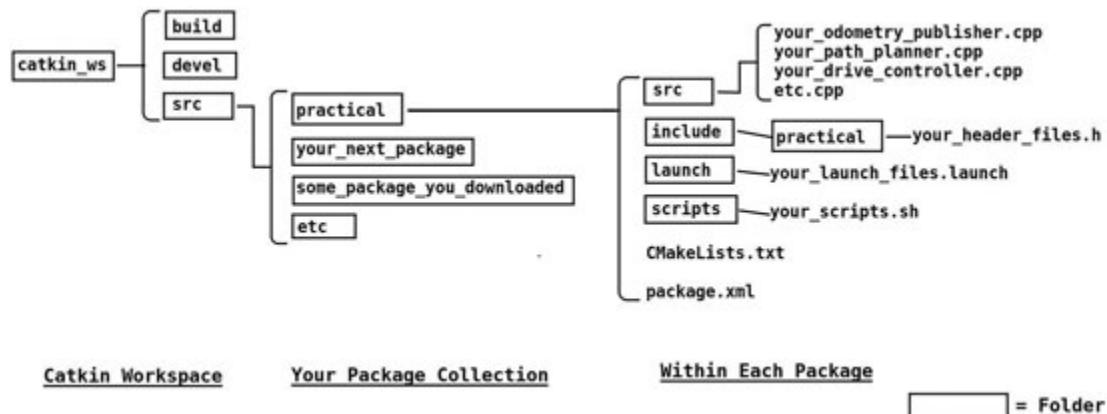

Figure 9.8: The Catkin workspace file structure
- To manually clone a package from the Internet that doesn't work with `apt`, you can often just clone it with `git clone` from the workspace `src` folder (see figure 9.8) and recompile by navigating back to your `catkin_ws` directory and running `catkin_make` at the command line.
- The arguments called depends are optional, but a good practice to include to avoid compilation errors. I know that the programs we write will need at least the packages called `roscpp` and `std_msgs`, so I included them when we created the package `practical`. You can also add them later in the package `CMakeLists.txt` file. Figure 9.8 shows the general structure of the **Catkin Workspace** and how your packages and files fit in.